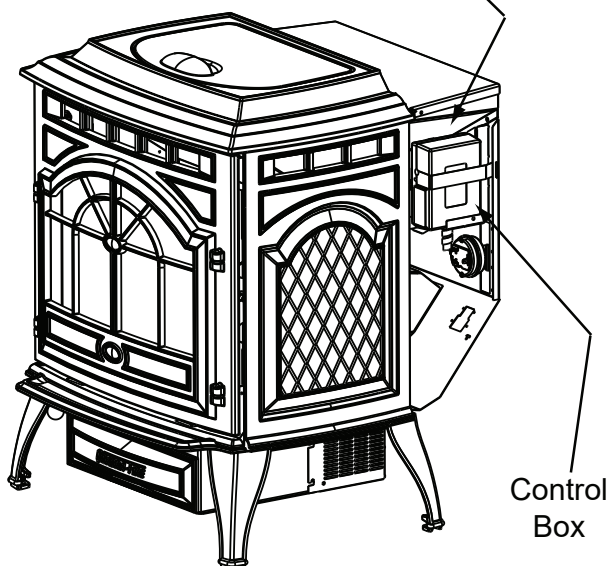

Figure 11.1
3. Locate the heat output control switch mounted on the back of the appliance in the upper right corner (**Figure 11.1**). Turn it to the “high” setting by pushing the top of the control switch in and then adjust the thermostat to its highest setting. Remove the right side panel and the red call light located to the left of the control box will be on (**Figure 10.2 on page 10**). This indicates the thermostat is calling for heat.